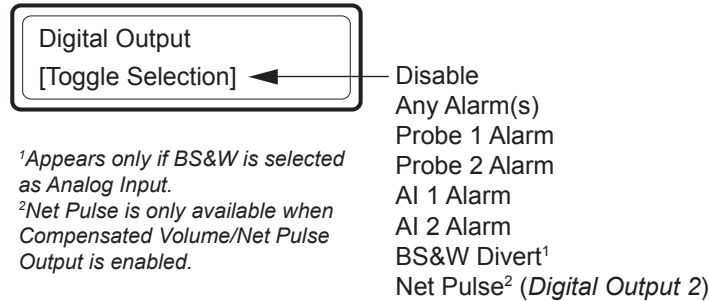

Figure 4.9—Configuration menu for digital output
2. Press INCREMENT and ENTER buttons simultaneously, then release to enter the configuration menu (Figure 4.9).